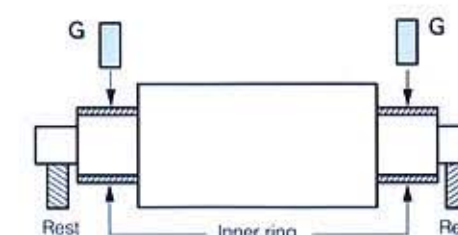

Fig. 3.32
- Grind the raceway of the inner ring installed on the roll neck. (In this case, NSK will instruct the finish dimension and raceway surface roughness.) (**Fig. 3.32**)